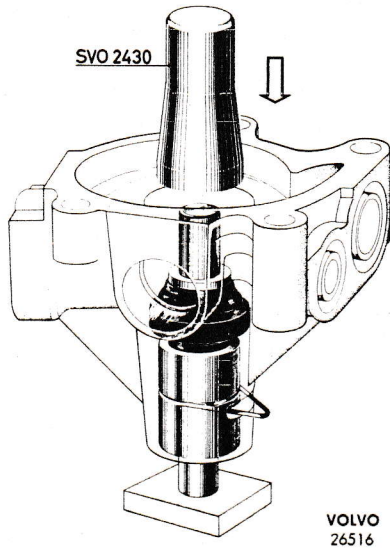

Fig. 79. Fitting the seal ring
2. Fit the seal ring with tool SVO 2430 as shown in Fig. 79. Smear the sealing surface against the impeller with molybdenum disulphide which has been stirred up in methylated spirit.